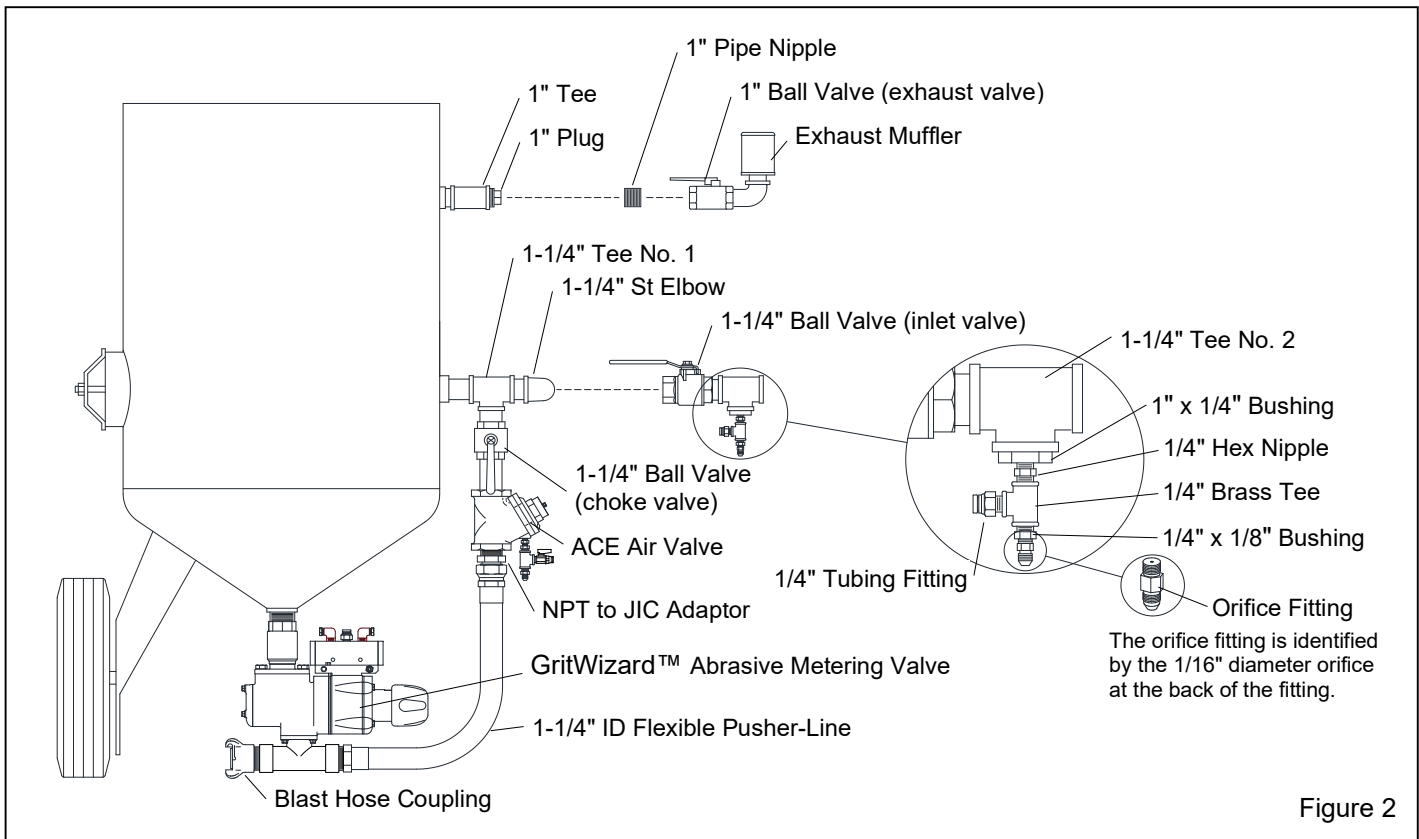

Figure 2
## 2.3 Field Installation on Existing Blast Machine Figures 2 and 3.
**2.3.2** Refer to Figure 2 for the final piping arrangement, and remove the existing abrasive metering valve and all unnecessary external piping from the blast machine. Save the external piping for reuse.
**2.3.4** Install a 1-1/4" pipe tee (Tee No. 1) and street elbow at the blast machine inlet, as shown in Figure 2. NOTE: The elbow should be facing toward the back of the machine, so the weight of the piping puts the fittings in the tightening position.
**2.3.5** Connect a manually operated ball valve (inlet valve) and a second tee (Tee No. 2) to the elbow, as shown. NOTE: The second tee and all fittings necessary to complete the assembly shown in the detail circle in Figure 2, are included with the remote system.
**2.3.7** Loosely assemble a pusher-line under Tee No. 1 using standard pipe fittings as shown in Figure 2. Start at the tee and work downstream; this line must include a manual choke valve, ACE Air Valve, and NPT to JIC adaptor, in that order. A separate manual is provided for the ACE Air Valve.
**2.3.9** Refer to the detail circle in Figure 2, and assemble all fittings within the circle. NOTE: The orifice fitting (shown in the detail circle) looks similar to other fittings, but it has a 1/16" opening in the back end of the fitting. It is important that the orifice is installed at this location, as it meters the appropriate amount of air to the air circuit.